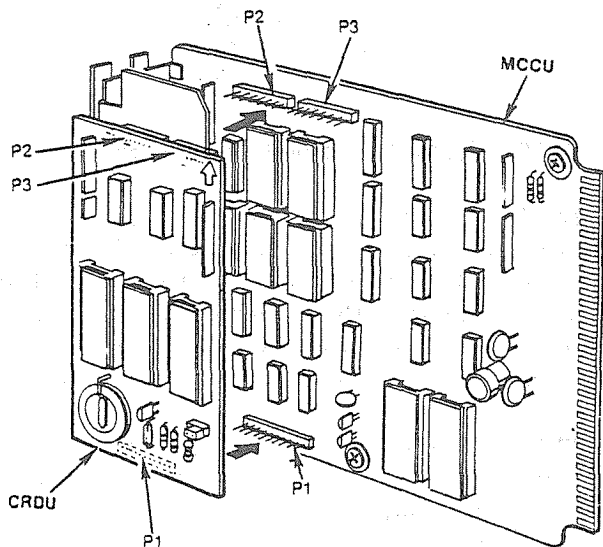

FIGURE 8
06.31 Mount the CRDU on the MCCU if required (see Figure 8).